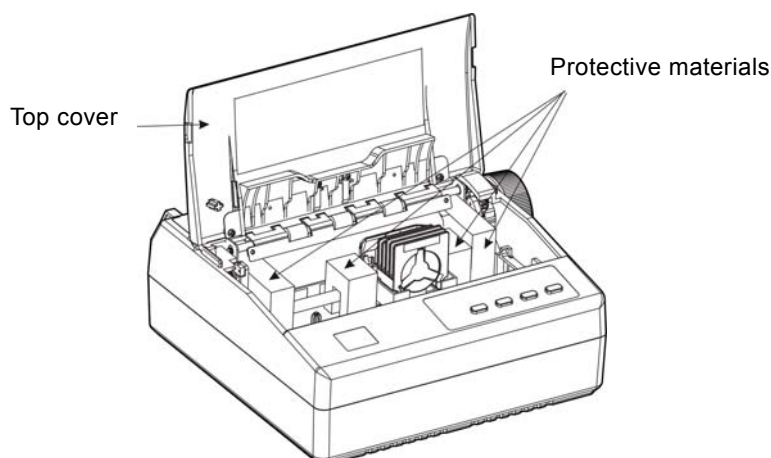

Figure1-2 Unpacking the protective materials
1. Open the packing box, take the printer out, then lift the top cover up and remove the protective materials as follows (As shown in Figure1-2).